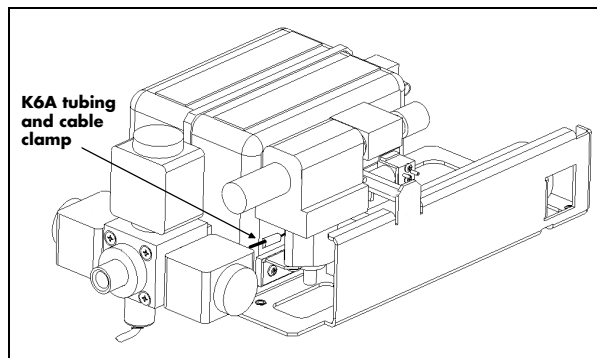

FIGURE 2-22 Cable Clamp Location
1. Remove the four (4) blue washers from the reservoir bracket and place them in the same holes on the new, replacement reservoir bracket (if applicable).
4. Re-install two (2) of the four (4) shock mount screws into the blue washers at the insulator end (the insulator should be able to hold the screws in place).
5. Verify that the two (2) O-rings are in the pressure/vacuum ports of the Drive manifold. Re-install the Drive Assembly using the same four (4) screws (#8-32 x 2.00"), applying one small drop of Loctite #242 on the screw threads.
7. Re-install the 8 PSI regulator by reinserting the O-ring fitting into the mounting block (opposite the pressure relief valve) and reinstalling the two (2) screws (#6-32 x 1/4") into the regulator bracket.
9. Place the black 1/8" tubing from the K6A solenoid into the cable clamp (P/N 0343-05-0001) shown in FIGURE 2-22. Route it back to the port on the Drive manifold and connect it. Verify that the two (2) shock mount screws are still inserted into the blue washers.
10. Re-mount the reservoir bracket to the assembly bracket by inserting the two (2) remaining shock mount screws into the blue washers and then tightening all four (4) screws. Verify that the K6A tubing is not pinched!